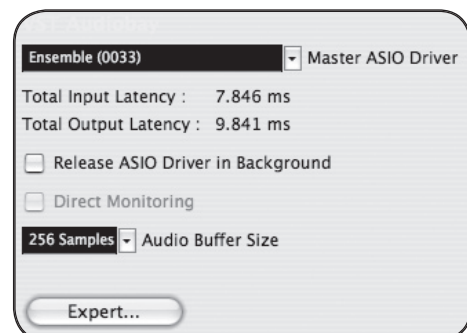

figure 31
2. Set **Master ASIO Driver** to **Ensemble**. (figure 31)